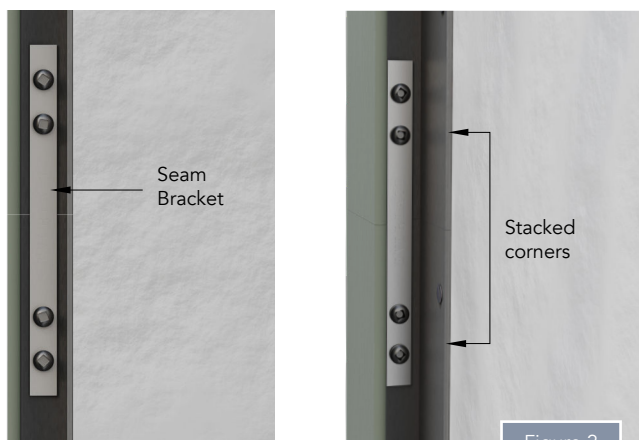

Figure 2
- In instances when the wall exceeds 10' or 20' and a second outside corner section must be installed, stack and butt the second piece to the first (Figure 2).